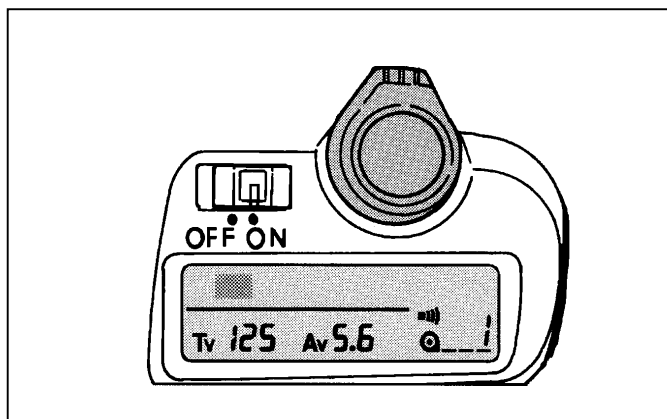

Figure 4-1. Camera Display Panel Depicting Shutter Speed Reading.
- To check if all systems are working properly, press the **CAMERA SHUTTER** halfway to observe the camera display panel. The shutter speed and aperture should not illuminate for more than 10 seconds (see Figure 4-1). If the shutter speed continues to illuminate beyond 10 seconds, an electrical short may exist in a portion of the cable jack or in the camera itself.